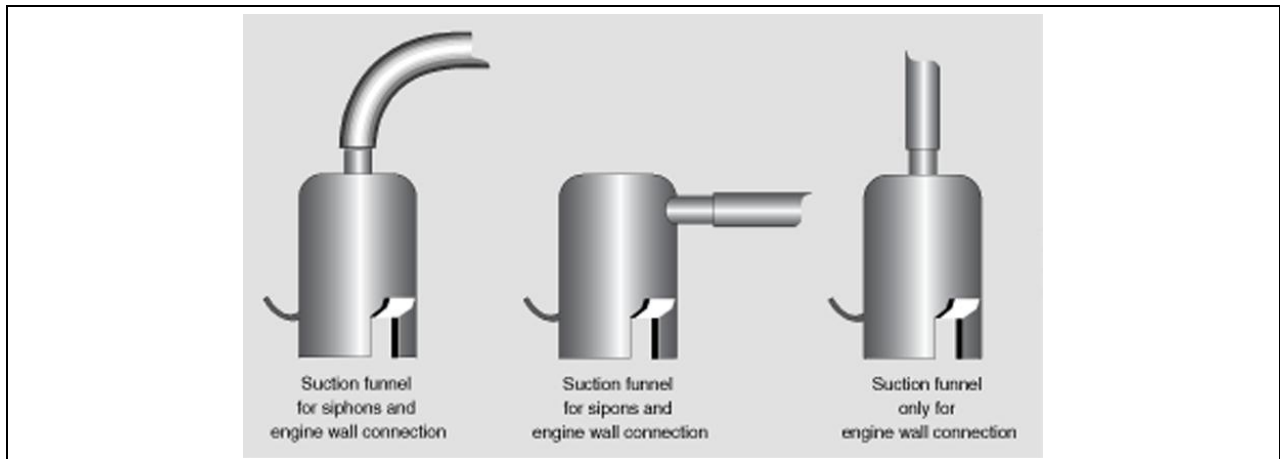

Figure 18: Different types of suction funnels
- Insert the suction funnel from the crankcase side into the siphon block, align it in a vertical position (see Figure 18) **with the opening at the bottom** and fix the small clamping nut.
The suction funnels have to be fitted in such a way that flooding by splashing bearing oil or returning piston cooling oil is avoided (see Figure 18).